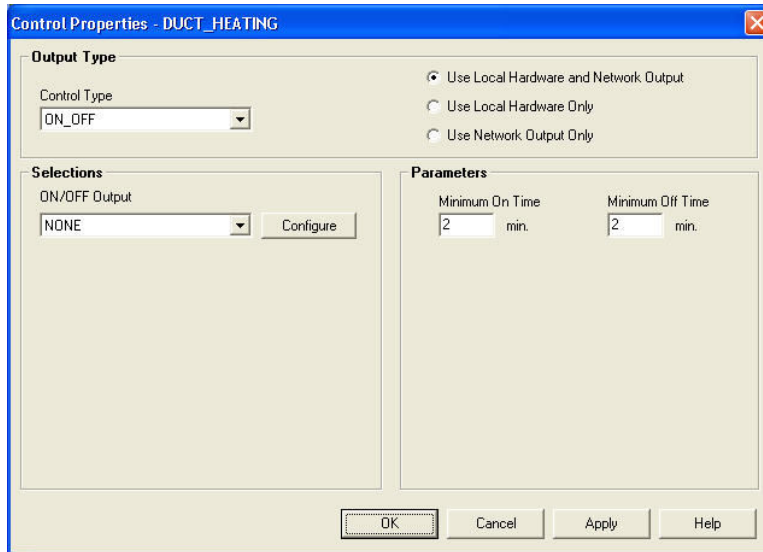

Figure 14: Control Properties Window, Example
1. Select DUCT_HEATING from the first Equipment Type drop-down menu. The Control Properties window opens (Figure 14).